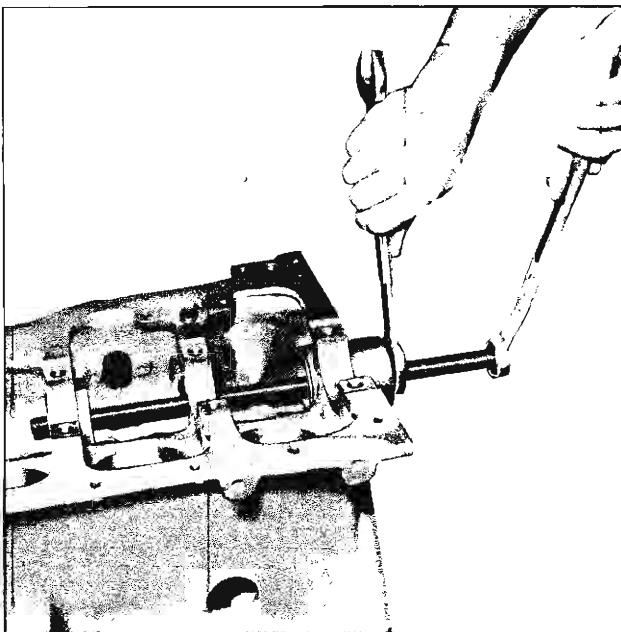

Fig. 38—Removing Camshaft Bearings
5. Using two wrenches, hold screw shaft and turn puller nut to remove bearing (fig. 38).